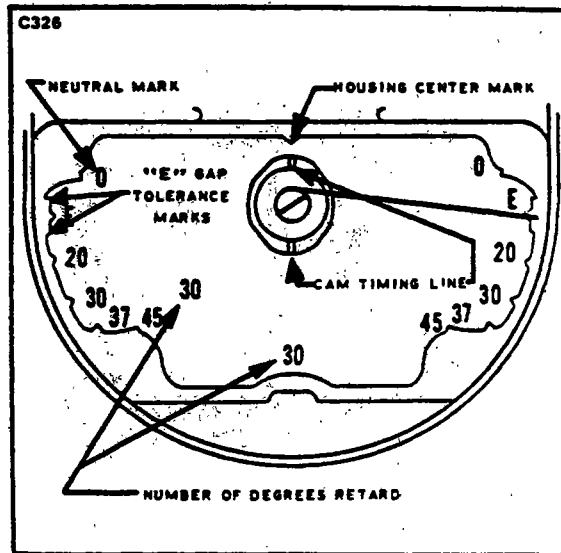

Figure 8-19. Breaker Compartment with Cast Timing Marks
e. If magneto is type which has "cast in" timing marks (-200 series, see Figure 8-19), main breaker may be adjusted with magneto on engine as follows: turn engine crankshaft until notch in cam is aligned with mark at top of breaker compartment. Set wire pointer in center of the "E" gap boss at the side of breaker compartment. Connect timing light across main breaker. Adjust main breaker contacts to open at this point. Turn engine crankshaft until cam follower is on the high point of the cam lobe. Measure contact clearance. It must be  $.018 \pm .006$ . If necessary, readjust breaker and recheck to be sure that contacts will open within "E" gap tolerance  $\pm 4$  degrees. (Width of "E" gap boss.)